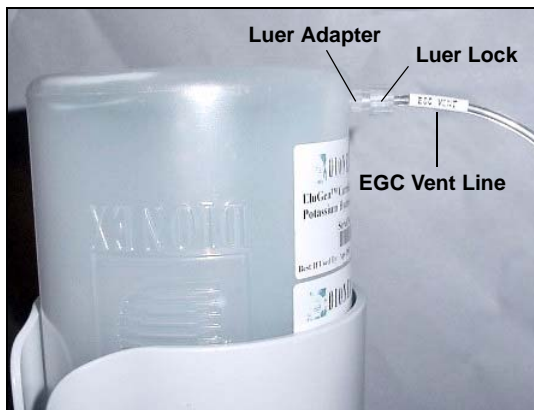

Figure 66. Installing the EluGen Cartridge Vent Line
5. Twist the luer lock and EluGen cartridge vent line into the luer adapter (see Figure 66).